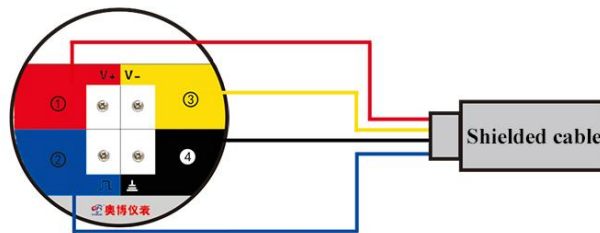

Fig. 10 Wiring terminal diagram
1. Connecting terminals are located on the other side of the detection amplifier, and are visible after the spin cover is opened, as shown in Fig. 10